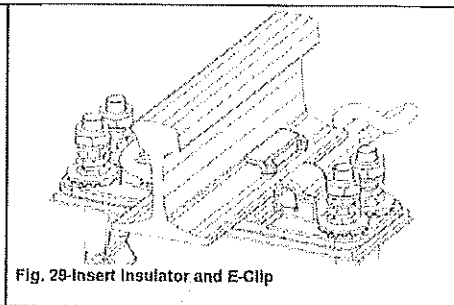

Fig. 29-Insert Insulator and E-Clip
1. Place the insulator – if applicable - in its intended position and insert the E-Clip into the shoulder, Fig. 29.